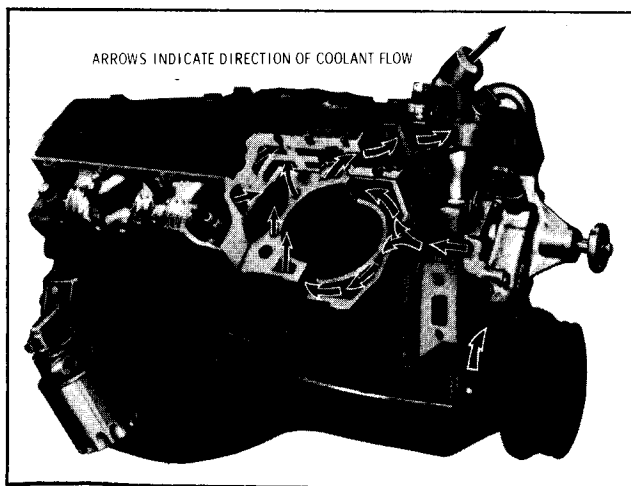

Figure 4—Cooling System Circulation
COOLING SYSTEM CIRCULATION (FIGURE 4)
2. With engine stopped, drain radiator coolant by opening radiator drain valve located at the lower left corner of the radiator as shown in Figure 4. Remove engine block drain plug on right lower side of block if desired.